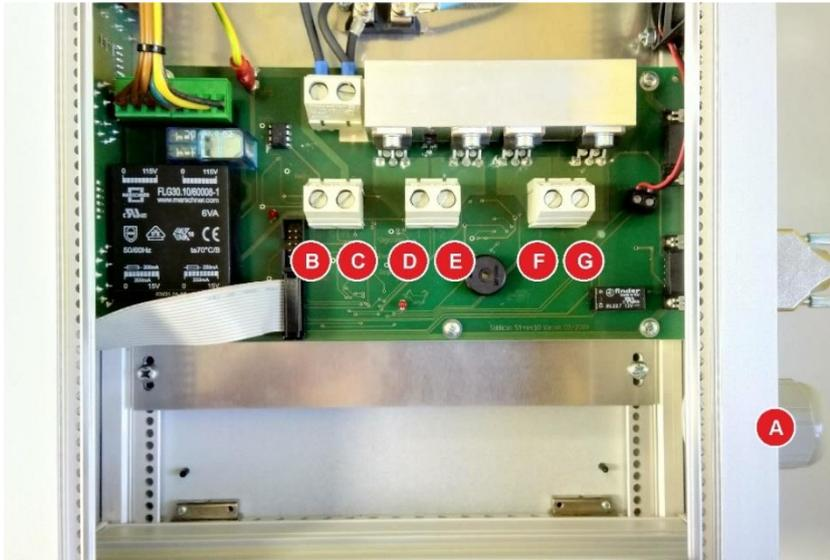

Figure 3 – Connection Titanium Sublimation Pump (TSP)
The connector TSP (🔗📖 Figure 3, page 16 such as Figure 2, A, page 15) is designed to connect the titanium sublimation pump (TSP) with a suitable power cable.
- Route the power cable through the cable gland on the back of the device and connect the wires according to the assignment (🔗📖 Figure 3, page 16). Pay attention to a clean installation and the tightness of the clamping screws.